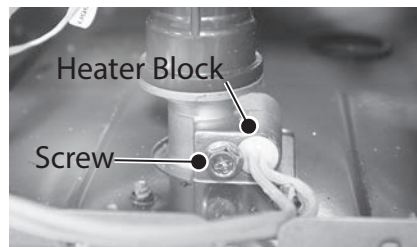

Figure 26 - Heater block location
- 18 Remove heater block B1 from the inlet water connection and set aside for reinstallation. See Figure 26.